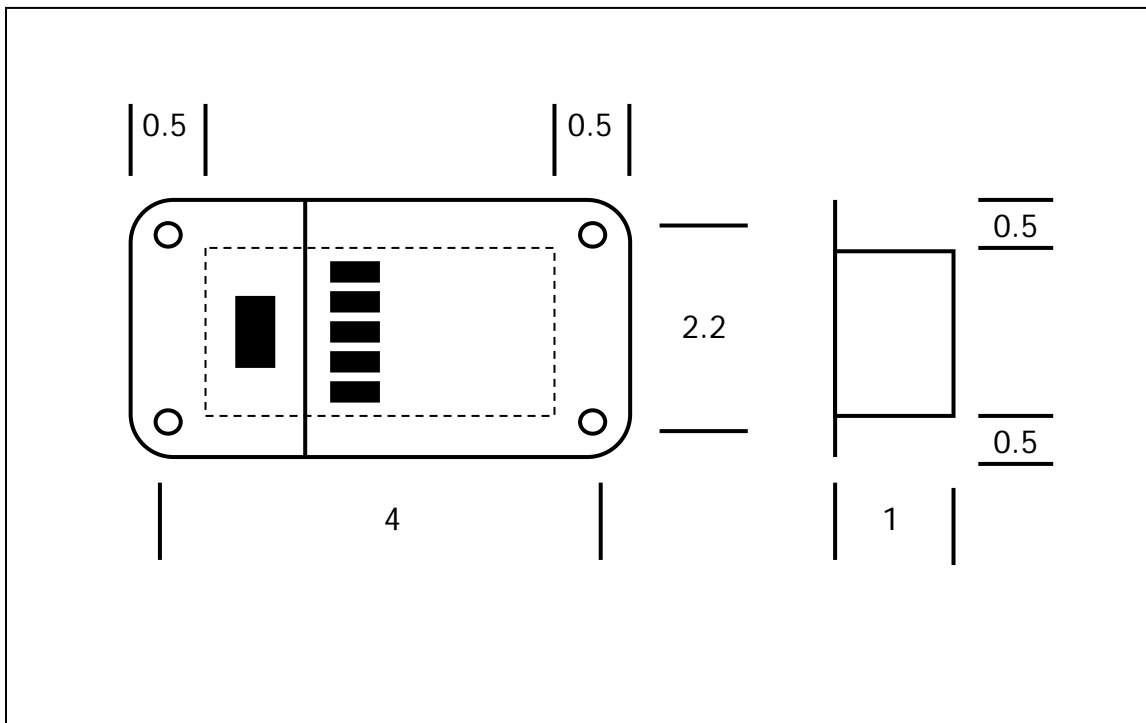

Figure 4 Control Panel Footprint
5.3.3 Remote Control Panel Mounting: The remote control panel must be mounted in a convenient, visible and accessible location. Connect the 8-pin flat phone type cable connector coming from the inverter module to the receptacle on the rear of the panel. See figure 4.